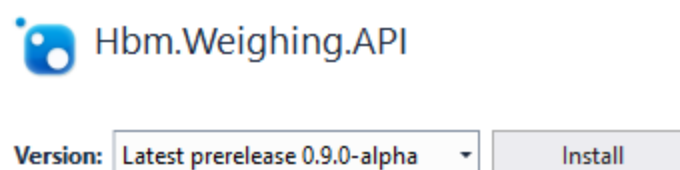

Figure 3.5: Installation button for current NuGet application
- Click on „Install“ on the right side of the appearing subwindow, see Figure 3.5.